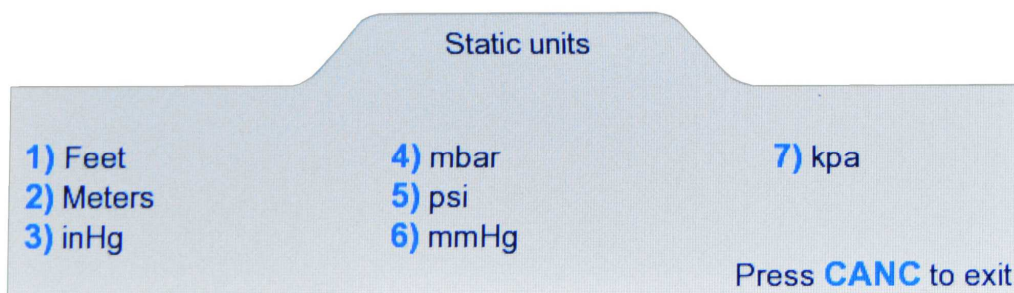

Figure 3.5 : Select Static units
Static units can be changed only if the key# symbol (5) is displayed to the right of the Static units field. Press key '5' on the keypad and the Lower section of the display will appear as shown in Figure 3.5 below.